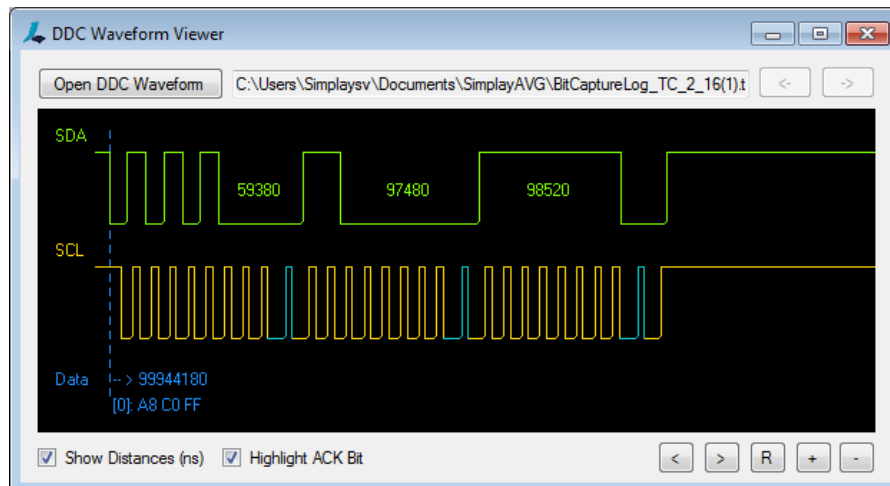

Figure 4.8. Sample DDC Waveform
9. Following is a sample DDC Waveform (Figure 4.8).